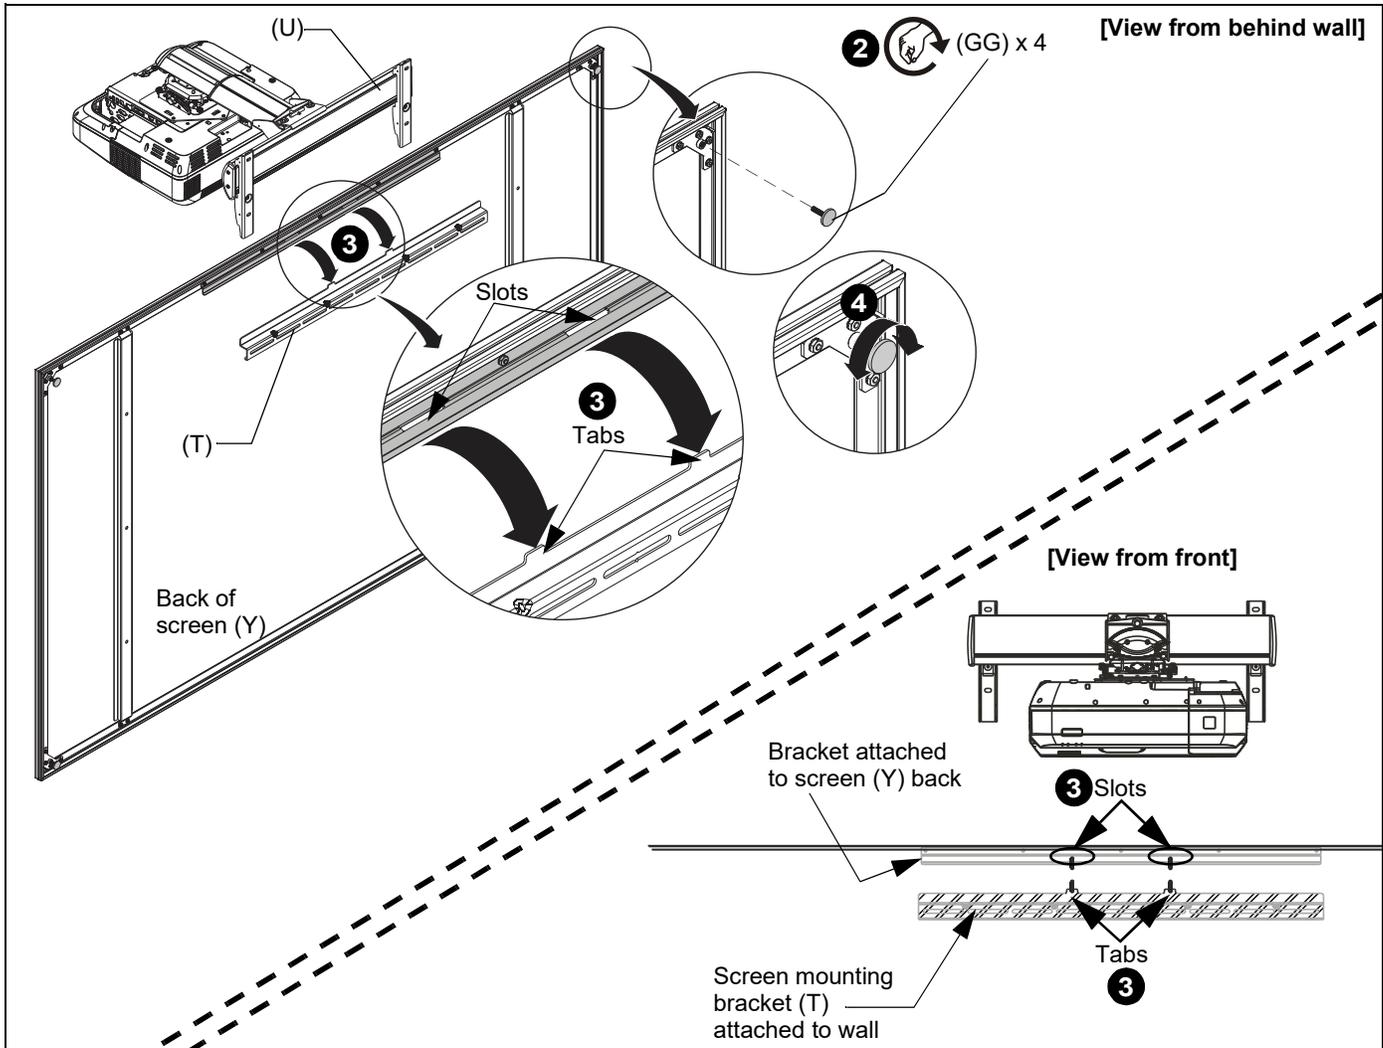

Figure 14
2. Stand screen up and add leveling feet (GG) to each corner on the back of screen (Y). Do not over tighten. (See Figure 14)
3. Hang screen (Y) onto screen mounting bracket (T), placing **slots** in bracket on back of screen over **tabs** on screen mounting bracket (T). (See Figure 14)
**NOTE:** Keep screen parallel to wall when hanging onto screen mounting bracket (T).